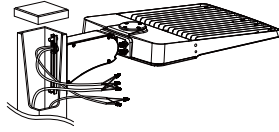

Figure 2-2
- Step2: Fix the fixture on the pole after passing the input wire of the fixture through the pole, and then connect the input wires to the mains properly, Figure 2-2;